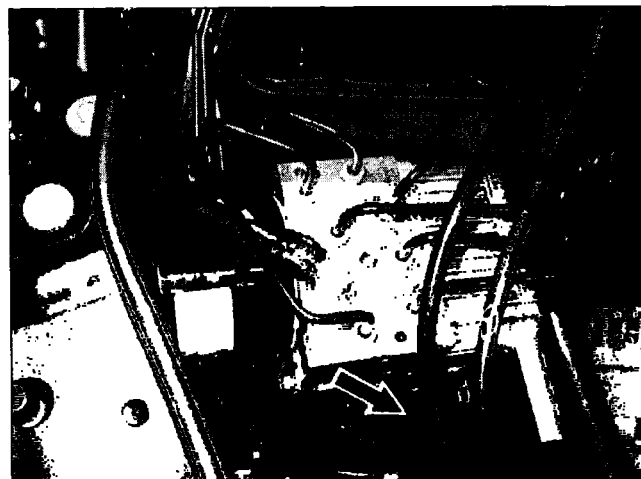

Figure 19
18. Connect the SBC wire harness connector (Arrow, Figure 19) to the SBC hydraulic unit and secure with connector locking mechanism.